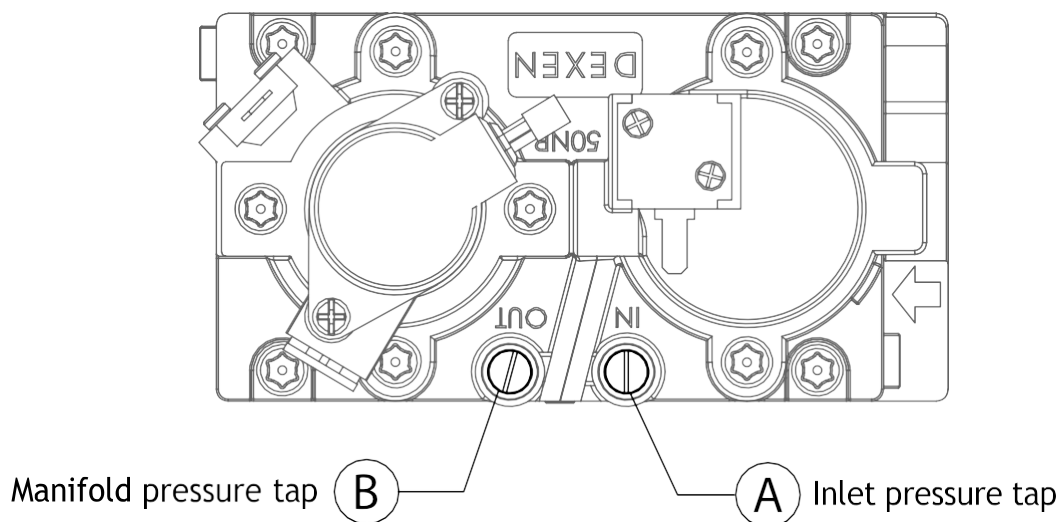

FIGURE 10.1 Pressure Check Taps
1. Loosen the inlet (IN) pressure tap by turning screw counter-clockwise. See (A) in FIGURE 10.1.
5. Disconnect hose and tighten the inlet (IN) pressure tap by turning screw clockwise. Screw should be snug. Do not over tighten.
6. Relight pilot and burner. Then reattach manometer to the inlet pressure tap (A) to verify the tap is completely sealed. Manometer should read no pressure.
7. Relight pilot and burner. Then reattach manometer to the inlet pressure tap (A) to verify the tap is completely sealed. Manometer should read no pressure.
2. Loosen manifold (OUT) pressure tap by turning screw counter-clockwise. See (B) in FIGURE 10.1.
7. Attach the manometer to the manifold pressure tap (B) to verify it is completely sealed. The manometer should read no pressure when pilot and burner are on.